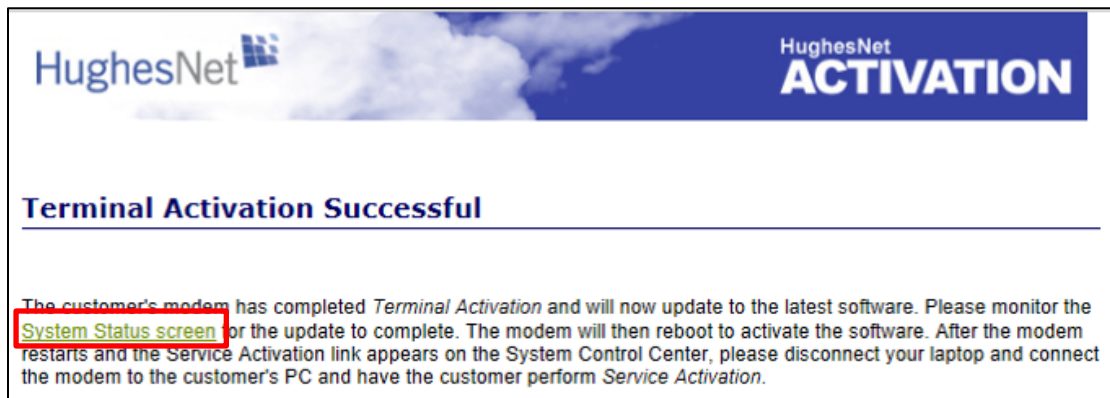

Figure 34: Complete message screen
2. The System Status screen appears. Ensure that all downloads are complete as indicated by the green check marks following the procedures or tasks as shown in Figure 34.